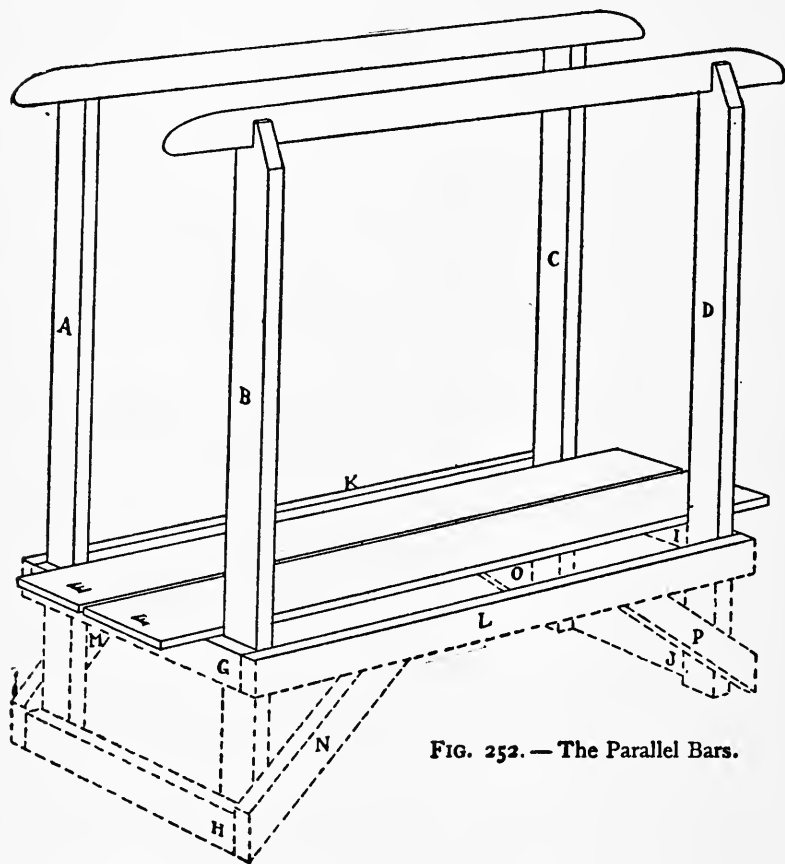

FIG. 252. — The Parallel Bars.
**Parallel Bars** is shown in Fig. 252. To acquire the necessary firmness without putting in bracing that would interfere with the performer, the base of the apparatus should be set underground, as indicated by the dotted lines in the illustration.
the two-by-fours to them at *G* and *H* (see Fig. 254). Uprights *C* and *D* should be similarly fastened together with the other two-by-fours at *I* and *J* (see Fig. 252). When these frames have been made, set them upon their bases six feet apart, and spike the two-by-fours *K*
and *L* to the uprights in the places shown in Fig. 252, with braces set between them and the pieces *H* and *J*, at *M*, *N*, *O*, *P* (see Figs. 252 and 255).
The bars should be seven feet six inches in length, and cut out of Georgia pine two-by-fours. Figures 252